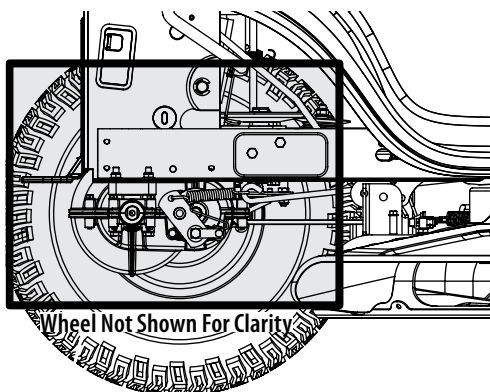

Figure 4-4
- Clean around and near the transmission, axle and the fan area. See Figure 4-4.